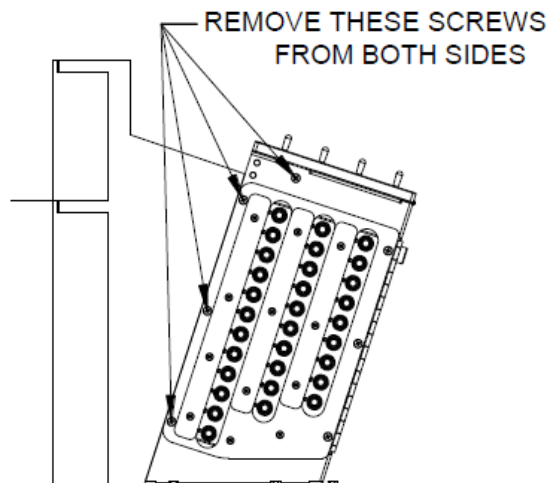
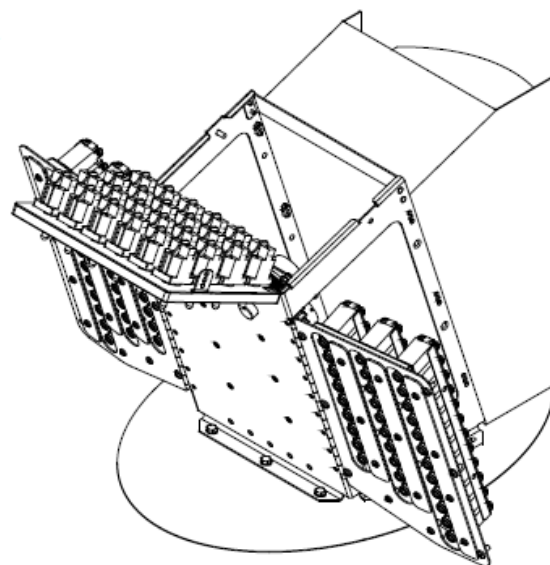

Figure 1 — #8 Screw Removal
Figure 2 — Door Hinges
Referencing Figure 1, remove the three forward #8 screws on each Circuit Breaker (CB) panel. Remove one #8 screw on each side of the console securing the Switch Plate Assembly. Each should now hinge open as shown in Figure 2.
If all 7 grommets are installed, close the CB door panels and Switch Plate & Overlay assemblies, referencing Figure 1 install screws to secure them. Nothing more is required, prepare the aircraft for return to service.
Close the CB door panels and Switch Plate & Overlay assemblies, referencing Figure 1 install screws to secure them. Nothing more is required, prepare the aircraft for return to service.